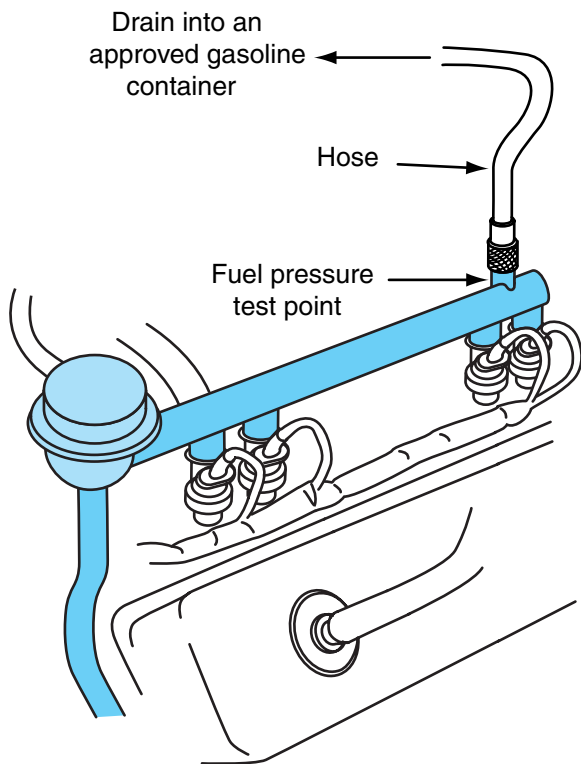

FIGURE 4.22 Bleed pressure from the fuel system before disconnecting fuel lines.
- Use a special hose that has a pressure relieving tool on the fuel rail end to drain fuel to a gas can (**Figure 4.22**).